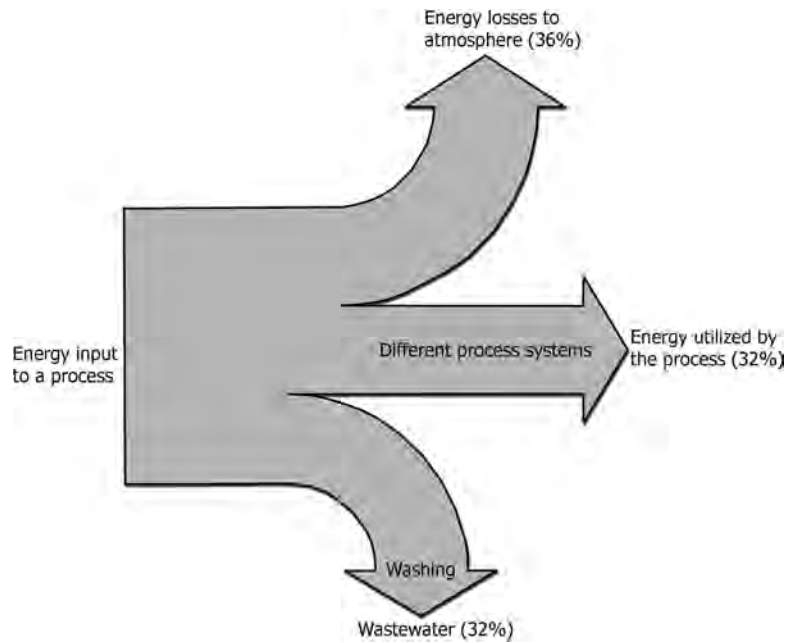

FIGURE 14.14 Sankey diagram.
- Figure 14.14 illustrates the principle.